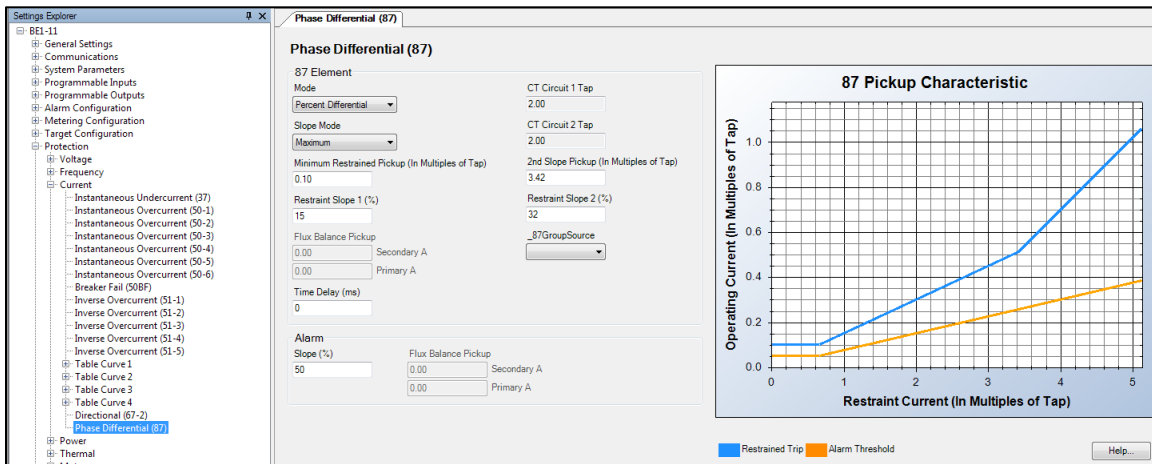

Figure 84-56. Protection, Current, Current Differential (87) Screen
The Current Differential (87) screen is shown in Figure 84-56.